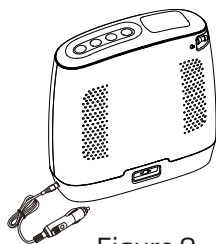

Figure 8
- When operating, connect cable into the Spirit-3 then connect the DC power plug (Cigarette Lighter Adapter) to the power source. As shown in Figure 8.